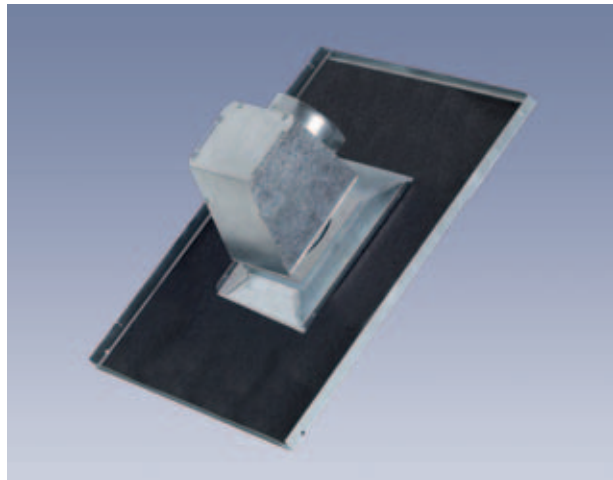

Figure 9: Opticlean with connection box
- a connection box (Figure 9).